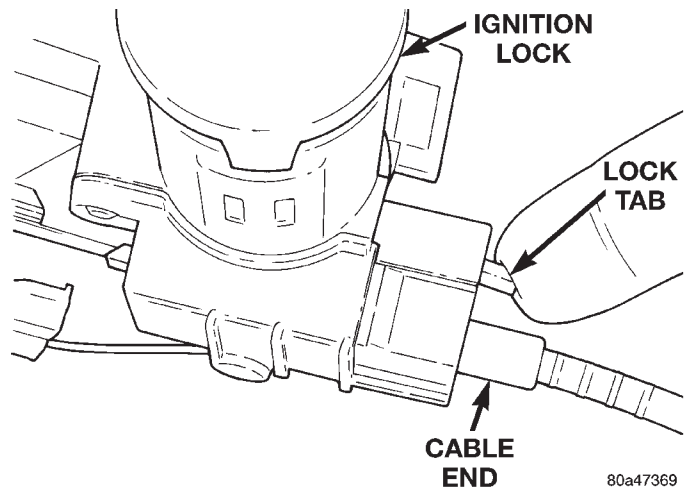

Fig. 25 Brake/Park Interlock Cable
- (1) Remove lower steering column cover. Refer to Group 8E, Instrument Panel and Gauges, for proper procedure.
- (2) Remove lower steering column shroud. Refer to Group 19, Steering, for proper procedure.
- (3) Remove tie strap near the solenoid retaining the brake transmission interlock cable to the steering column.
- (4) Disengage wire connector from solenoid.
- (5) With the ignition removed or in the unlocked position, disengage lock tab holding cable end to steering column (Fig. 25).
- (6) Pull cable end from steering column.
- (7) Remove the floor console and related trim. Refer to Group 23, Body, for proper procedure.